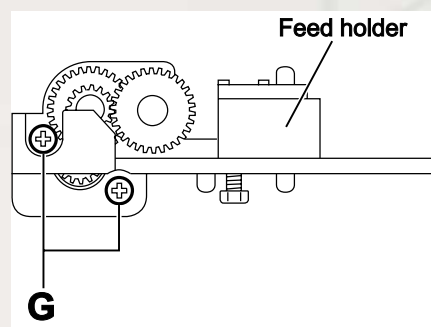

Fig.12
- (5) From the side of the feed holder, remove the two screws **G** attaching the feed motor. (See Fig.12.)